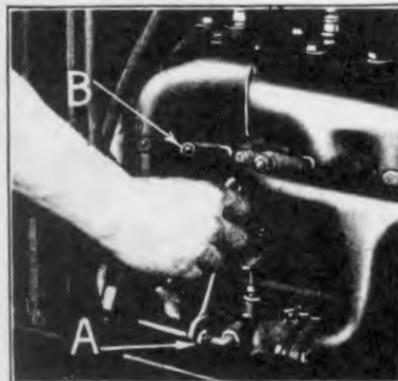

Fig. 29
- 29 **Disconnect feed pipe from carburetor** by running off gasoline feed pipe pack nut from carburetor inlet elbow (See "A" Fig. 29). (To prevent any possibility of the motor lifting hooks slipping when lifting engine out of frame it is advisable to remove the carburetor hot air pipe. This is done by running off manifold stud nut "B" and lifting off clamp and pipe.)